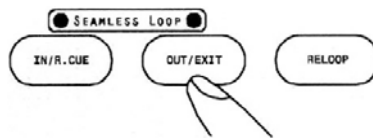

Fig. 13
- b. Next, press the OUT/EXIT Button to return to normal play (Fig 13). This ends the SEAMLESS LOOP mode.